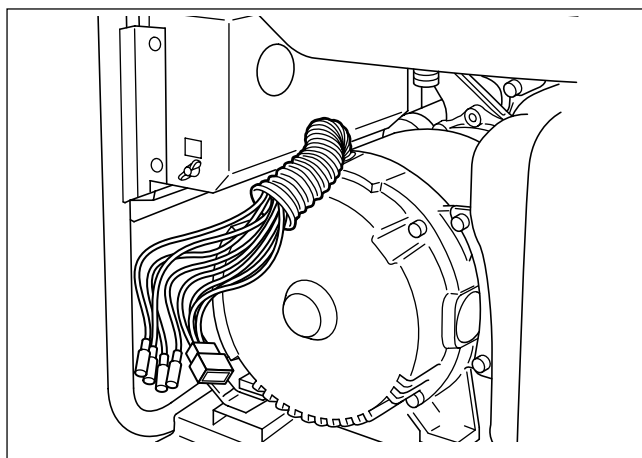

Fig. 10-2
(2) Disconnect the connectors on the wiring from the control box to the alternator.
(3) Take off the bushing from the back of the control box. (See Fig. 10-2.)	Press the upper end of the bushing and pull out.